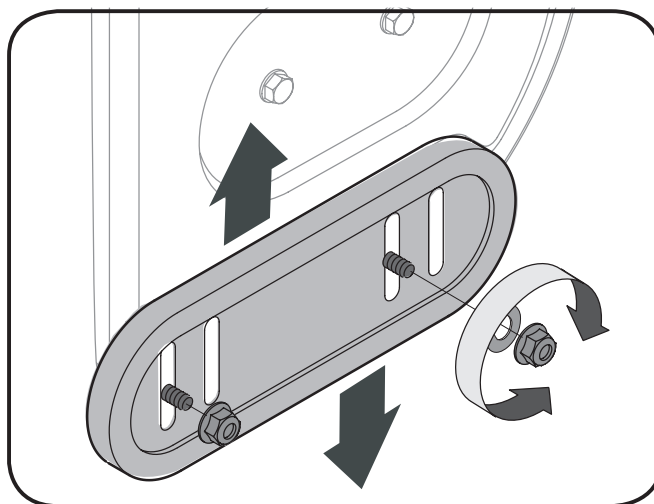
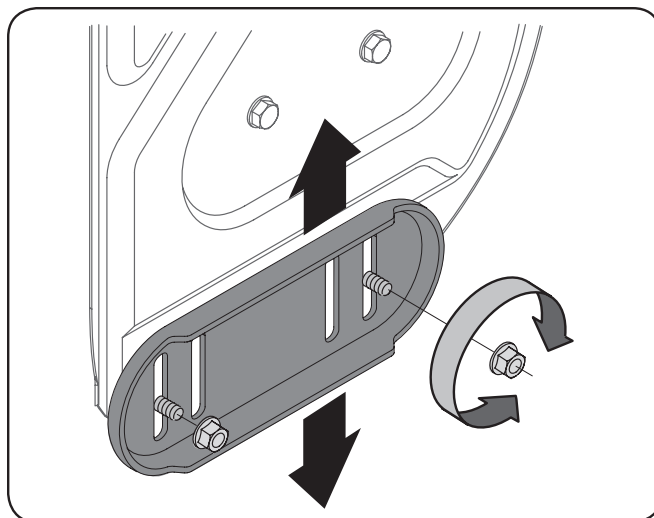

Fig. 3-15
Fig. 3-16
1. Loosen the four hex nuts (two on each side) and carriage bolts. Move skid shoes to desired position. See Fig. 3-15 or Fig. 3-16.